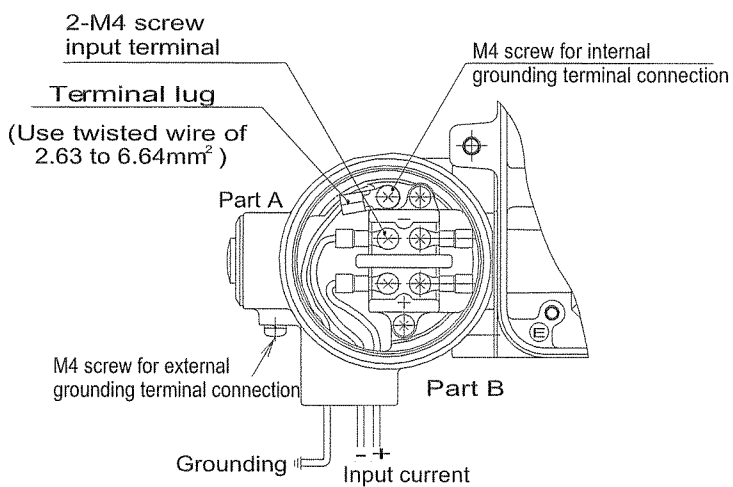

Fig 14. Positioner with terminal box
(1) Connect the (+) and (-) output terminals from the regulator with the (+) and (-) input terminals, respectively, of the positioner terminal box. The port diameter at the conduction wire drawing port is the size of G1/2 parallel screw for piping and the depth is for a 16.5mm female screw.
(2) Two drawing ports, marked as Part A and Part B in Fig.14, are provided. Use either one as fitted. (Part B is used in the figure).